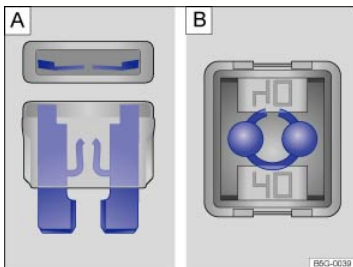

Fig. 166 Blown fuse: : Blade fuse. : JCASE® fuse.
- *For blade fuses (ATO®, MINI®)*: Remove the fuse and shine a flashlight on it. This makes it easier to tell if the fuse has blown. A blown blade fuse has metal strips that have burned through, which you can see through the transparent housing from above and from the side ⇒ *Fig. 166 A*.
- *For cartridge fuses (JCASE®)*: Shine a flashlight on the fuse. This makes it easier to tell if the fuse has blown. A blown cartridge fuse has metal strips that have burned through, which you can see through the transparent housing from above ⇒ *Fig. 166 B*.